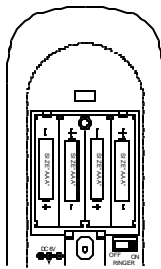

Figure 3
2. Insert four new “AAA” alkaline batteries (not included) into the battery compartment of the base unit. Ensure that the polarities as shown on figure 3 are followed.
3. Install the wall mount bracket as shown on figure 3.